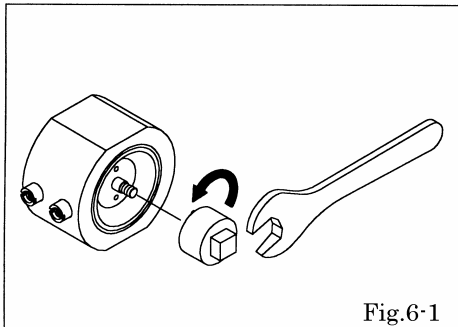

Fig.6-1
- * Remove the guides of both sides using the socket for a guide (dedicated tool: Part No. 803989) and the spanner. [Fig.6-1]